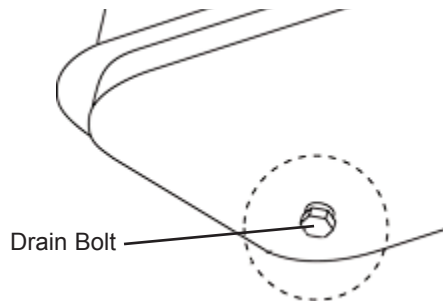

Figure 7: Drain Bolt
1. Remove drain nut from rear bottom side of fuel tank by unscrewing nut and drain. See Figure 7.